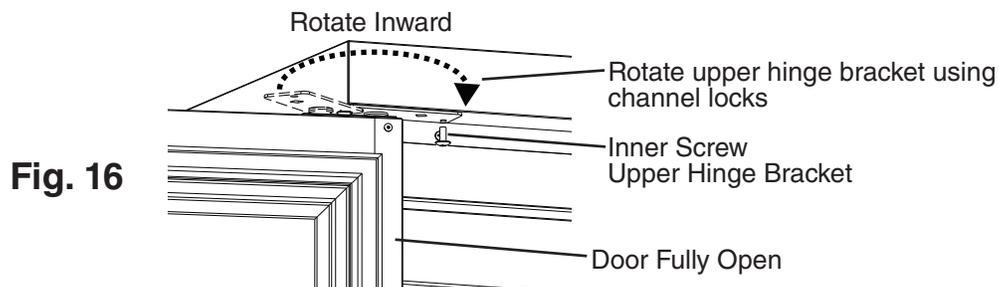

Fig. 16
- 14) Rotate the upper hinge bracket inward into position using channel locks. See Fig. 16.